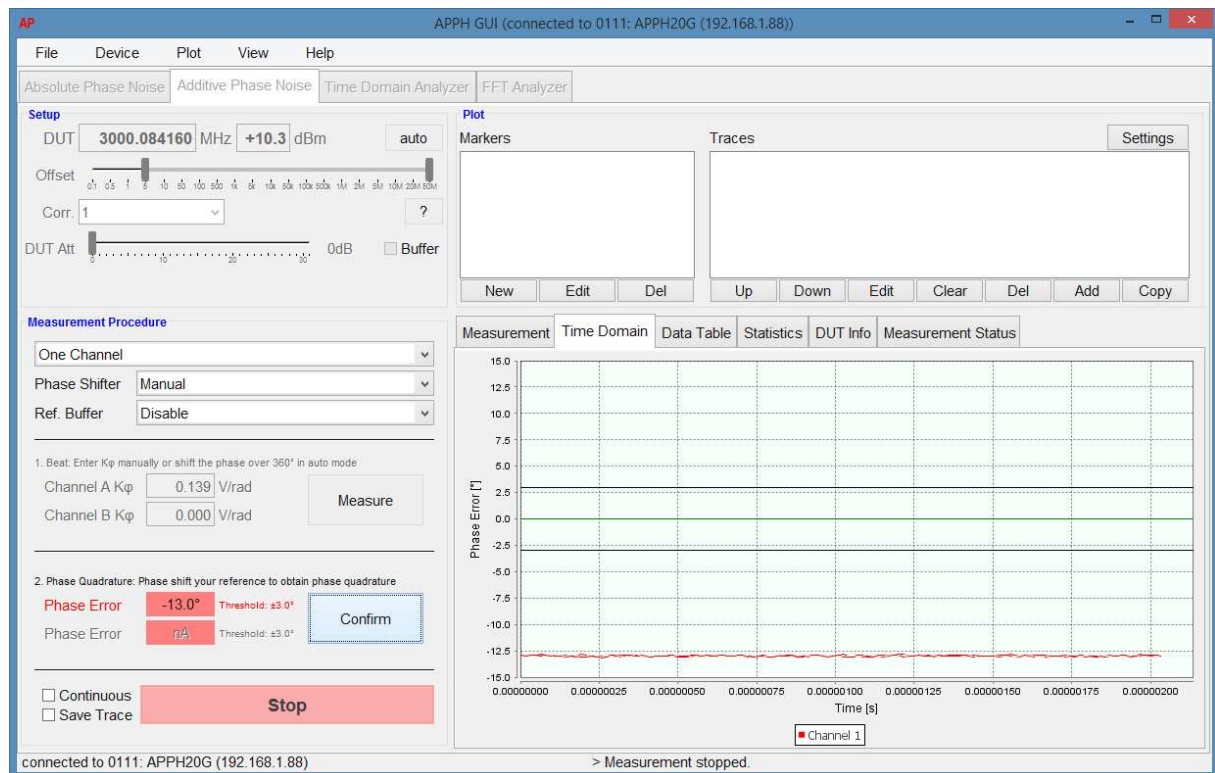
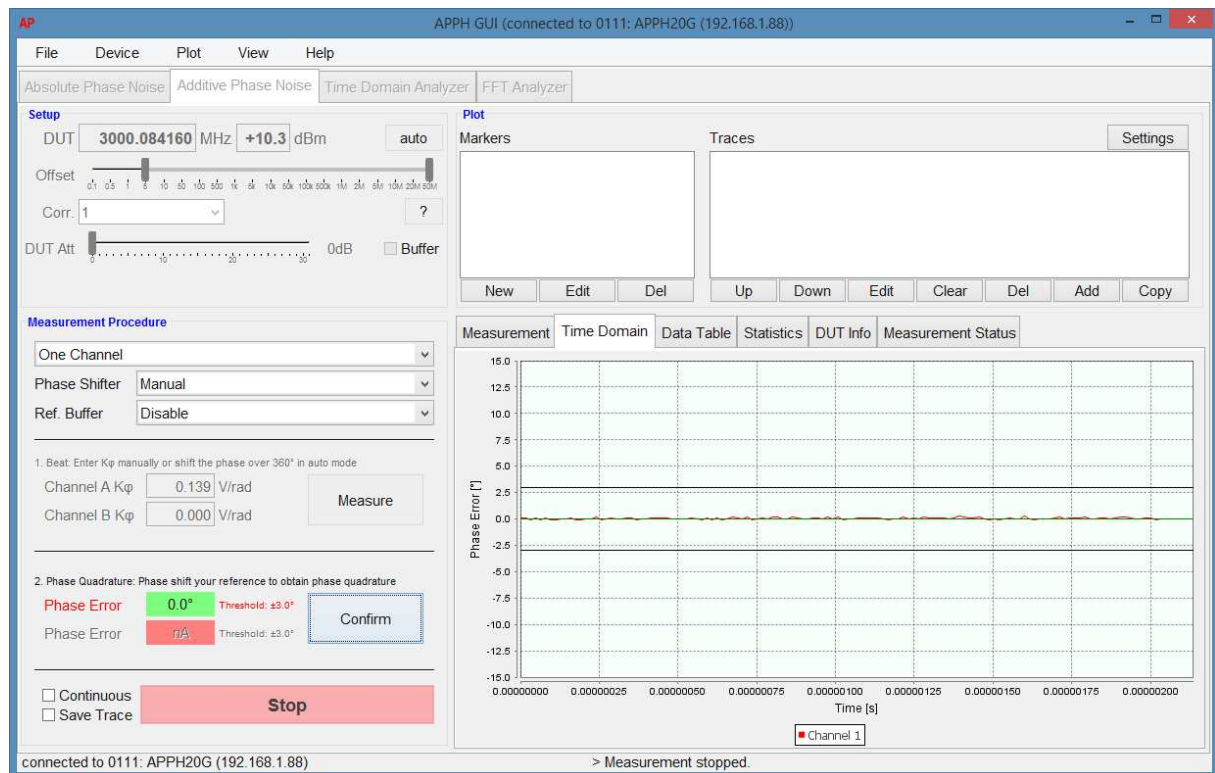

Figure 5: Adjusting to phase quadrature using phase shifter
Figure 6: Quadrature achieved within accepted tolerance range
- 4) In a next step, the signals at the phase detector are adjusted to quadrature (90° phase shifted in respect to each other) using the phase shifter (see Figure 5 & Figure 6). Clicking on the second "Measure" button will continuously show the current phase error which has to be reduced to 0° by phase shifting the reference. Once the phase error is minimized, complete the calibration step by clicking on the second "Confirm" button.